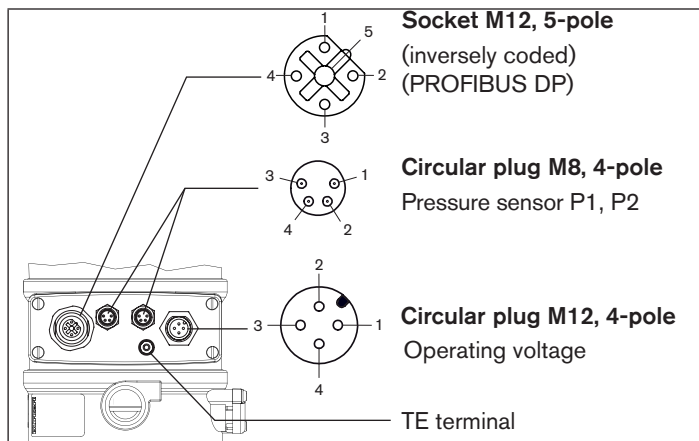

Fig. 13: Connection with PROFIBUS DP
The electrical connection module of Type 8693 features a setscrew with nut which is used to connect the Technical Earth (TE) (see “Fig. 13: Connection with PROFIBUS DP”).